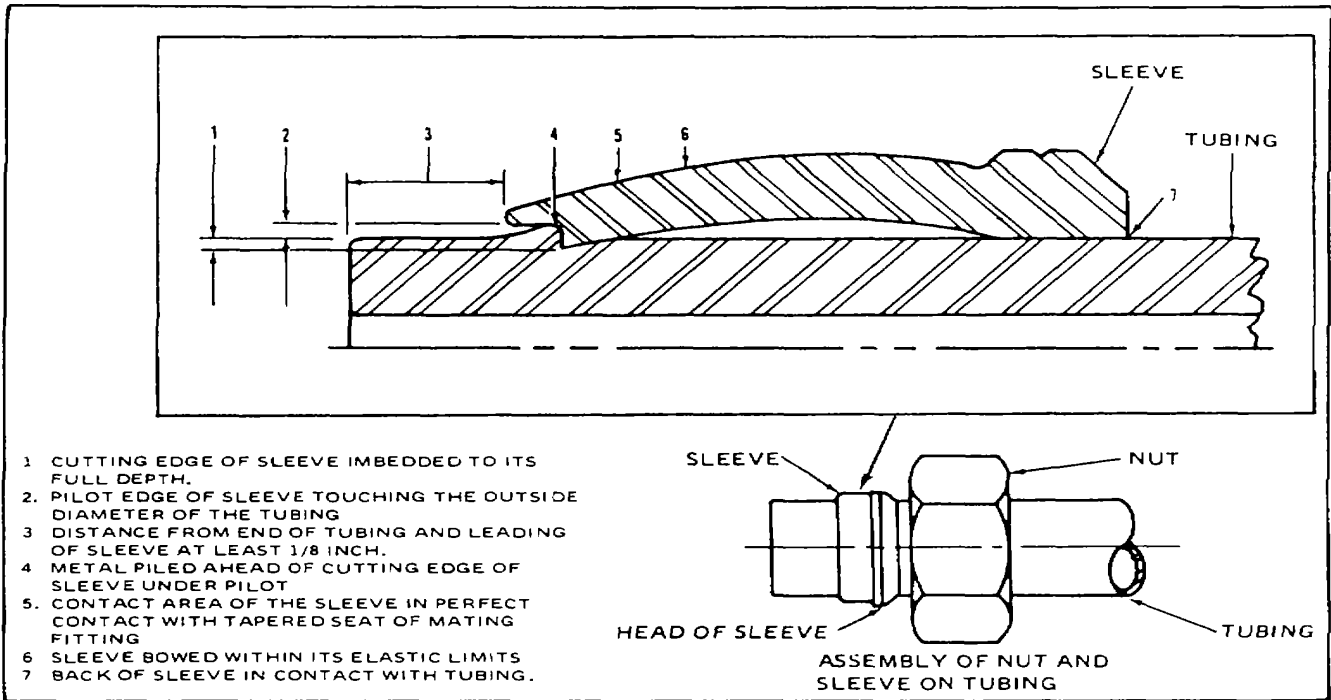

Figure 6-1. Steel Tubing and Fitting Assembly
- (b) Slide tubing nut and then the sleeve onto the tubing, refer to Figure 6-1. Make certain end of tubing is free of any burrs and is reasonably square.
- (f) Unscrew nut and remove the tubing from the mating fitting, or presetting tool. Inspect the preset as described in Figure 6-1.
Remove tubing and hose assembly as needed (see Figure 6-1) in the disassembly process. Tag tube or hose assembly for reassembly purposes.